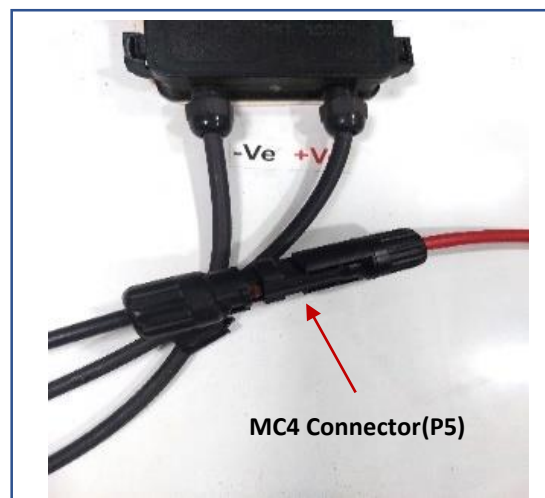

Fig.15
STEP 1: Establish the connection between **Radar Sign** and **Solar Unit** for power supply by connecting **MC4 Connectors (P5)**. Fig.15